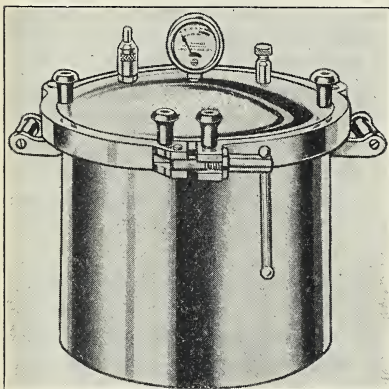

Fig. 59. A pressure cooker. Increased steam pressure in the air-tight pot raises the boiling temperature.
**The pressure cooker.** If you live in the high mountains or have a summer home there, you can beat nature by raising the boiling point within the cooking pot. When a vessel containing boiling water is entirely inclosed, the pressure of the confined steam increases and the temperature of the boiling water rises. This principle is used in the pressure cooker. Food that is cooked in a pressure cooker will be cooked at a higher temperature than in an open pot. The food to be cooked is placed in the cooker and the lid is screwed on (Fig. 59). A steam-pressure gauge indicates the pressure and a thermometer shows the temperature of the confined food. A safety valve automatically opens before the pressure becomes too great.